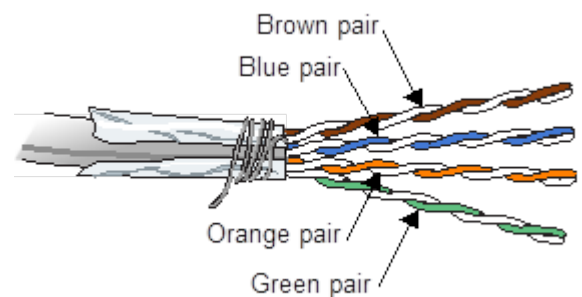

Figure 3
11. Arrange pairs in the order below (Refer Figure 3):